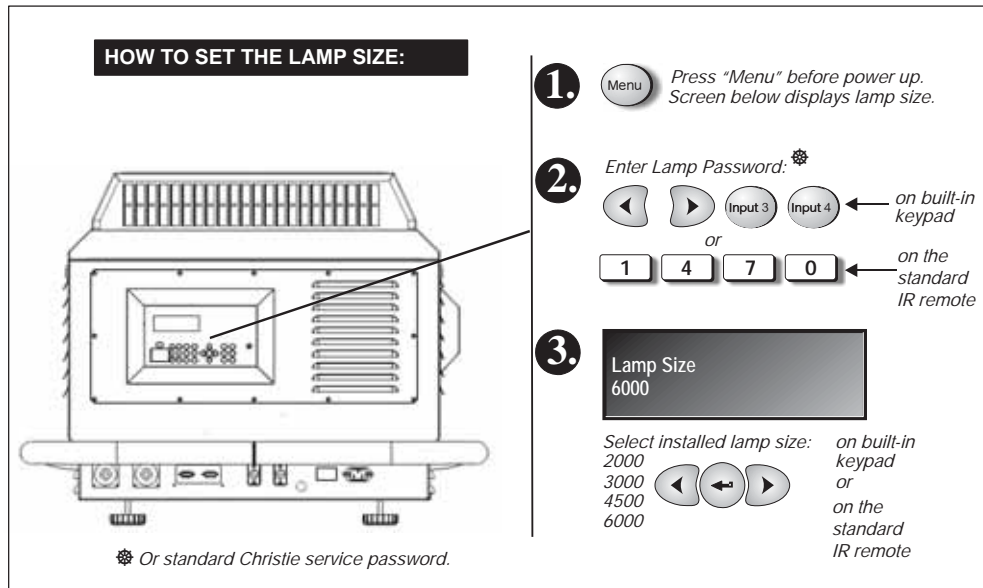

Figure 2-5 Setting Lamp Size
- Enter either the Lamp Password. Refer to Figure 2-5.